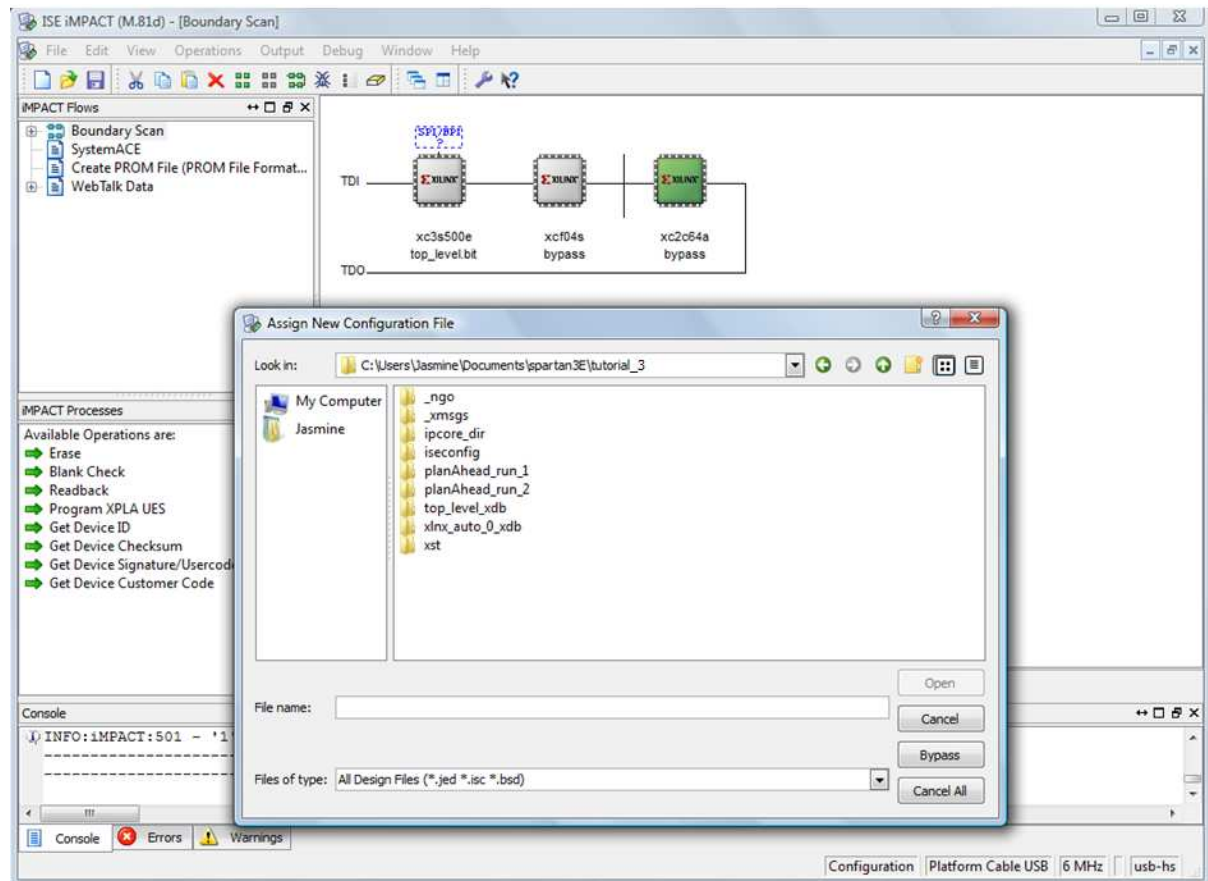

Figure 6.56: iMPACT window, bypassing the xc2c64a.
11. The **Assign New Configuration File** window will appear yet again (Figure 6.56). Again click **Bypass**. This ensures that the xc2c64a is bypassed.